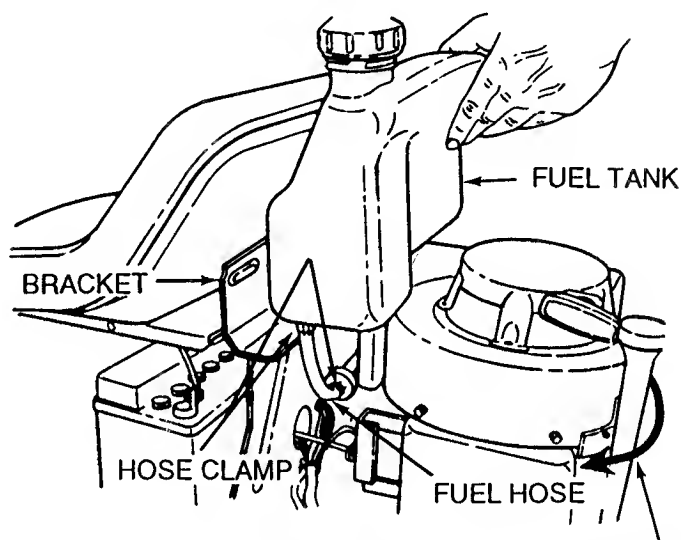

Figure 4 - INSTALLING FUEL TANK 16 HP FUEL LINE ROUTE
STEP 6: Install the fuel tank by snapping the tank (as shown in Figure 4 DOWN into the tank bracket. The two front grooves and long rear groove found on tank will receive the embossed corresponding areas (formed in the seat bracket) and will secure the fuel tank in the proper position. Slip a clamp on the end of the fuel line, connect the line to the tank fitting, and then move the clamp up to the fitting to secure the connection. **NOTE:** On 16 HP Briggs engines route fuel line from carburetor around the rear of engine to the left side (sitting in operator's position) and connect to tank and secure with clamp. **CAUTION:** Do not route fuel line over or near exhaust manifold or muffler as it could cause serious injury by fire.